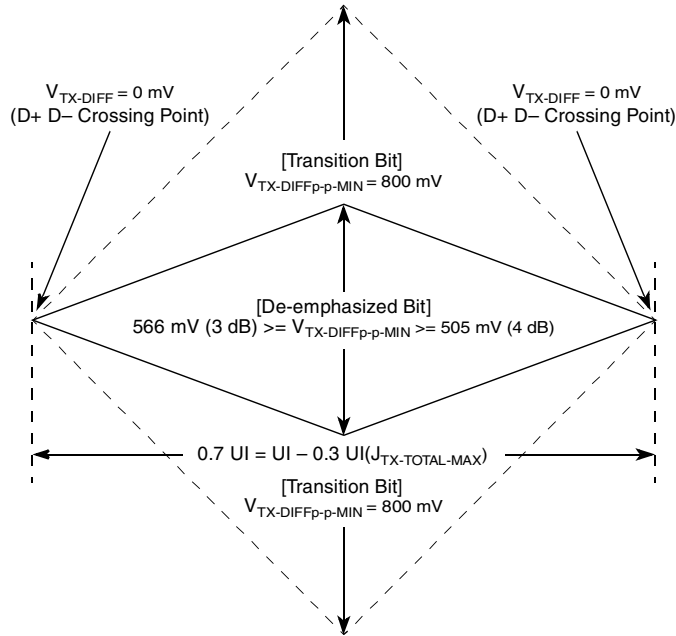
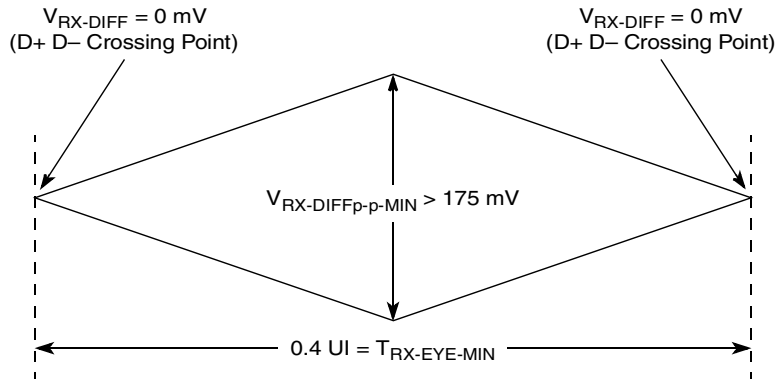
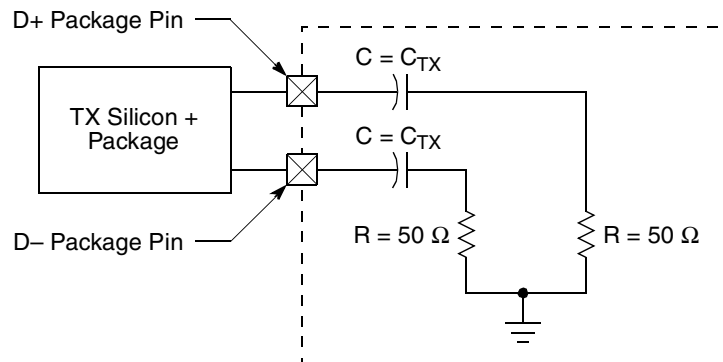

Figure 42. Minimum Transmitter Timing and Voltage Output Compliance Specifications
Figure 43. Minimum Receiver Eye Timing and Voltage Compliance Specification
Figure 44. Compliance Test/Measurement Load
2. Specified at the measurement point into a timing and voltage compliance test load as shown in Figure 44 and measured over any 250 consecutive Tx UIs. (Also refer to the transmitter compliance eye diagram shown in Figure 42.)
4. The transmitter input impedance will result in a differential return loss greater than or equal to 12 dB and a common mode return loss greater than or equal to 6 dB over a frequency range of 50 MHz to 1.25 GHz. This input impedance requirement applies to all valid input levels. The reference impedance for return loss measurements is 50 Ω to ground for both the D+ and D– line (that is, as measured by a vector network analyzer with 50- Ω probes, see Figure 44). Note that the series capacitors, C_{TX} , is optional for the return loss measurement.
5. Measured between 20%–80% at transmitter package pins into a test load as shown in Figure 44 for both V_{TX-D+} and V_{TX-D-} .
The Tx eye diagram in Figure 42 is specified using the passive compliance/test measurement load (see Figure 44) in place of any real PCI Express interconnect + Rx component. There are two eye diagrams that must be met for the transmitter. Both diagrams must be aligned in time using the jitter median to locate the center of the eye diagram. The different eye diagrams differ in voltage depending on whether it is a transition bit or a de-emphasized bit. The exact reduced voltage level of the de-emphasized bit is always relative to the transition bit.
2. Specified at the measurement point and measured over any 250 consecutive UIs. The test load in Figure 44 should be used as the Rx device when taking measurements (also refer to the receiver compliance eye diagram shown in Figure 43). If the clocks to the Rx and Tx are not derived from the same reference clock, the Tx UI recovered from 3500 consecutive UI must be used as a reference for the eye diagram.
4. The receiver input impedance will result in a differential return loss greater than or equal to 10 dB with the D+ line biased to 300 mV and the D– line biased to –300 mV and a common mode return loss greater than or equal to 6 dB (no bias required) over a frequency range of 50 MHz to 1.25 GHz. This input impedance requirement applies to all valid input levels. The reference impedance for return loss measurements for is 50 Ω to ground for both the D+ and D– line (that is, as measured by a vector network analyzer with 50- Ω probes, see Figure 44). Note that the series capacitors, C_{TX} , is optional for the return loss measurement.
The Rx eye diagram in Figure 43 is specified using the passive compliance/test measurement load (see Figure 44) in place of any real PCI Express Rx component. In general, the minimum receiver eye diagram measured with the compliance/test measurement load (see Figure 44) is larger than the minimum receiver eye diagram measured over a range of systems at the input receiver of any real PCI Express component. The degraded eye diagram at the input receiver is due to traces internal to the package as well as silicon parasitic characteristics that cause the real PCI Express component to vary in impedance from the
compliance/test measurement load. The input receiver eye diagram is implementation specific and is not specified. Rx component designer should provide additional margin to adequately compensate for the degraded minimum receiver eye diagram (shown in Figure 43) expected at the input receiver based on an adequate combination of system simulations and the return loss measured looking into the Rx package and silicon. The Rx eye diagram must be aligned in time using the jitter median to locate the center of the eye diagram.
The reference impedance for return loss measurements is 50 Ω to ground for both the D+ and D− line (that is, as measured by a Vector Network Analyzer with 50 Ω probes—see Figure 44). Note that the series capacitors, C_{PEACCTX}, are optional for the return loss measurement.
The AC timing and voltage parameters must be verified at the measurement point, as specified within 0.2 inches of the package pins, into a test/measurement load shown in Figure 44.